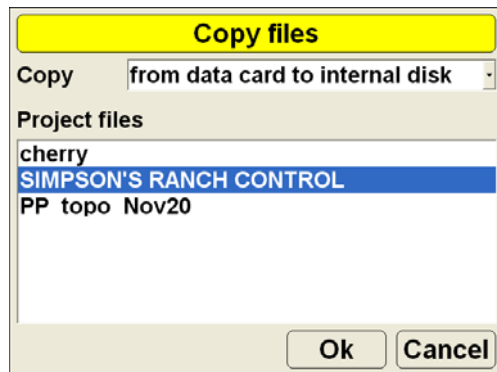

Figure 8-20. Copy File
4. Select “from data card to internal disk” and the file to copy from the *Project files* list (Figure 8-20). Tap **OK**.